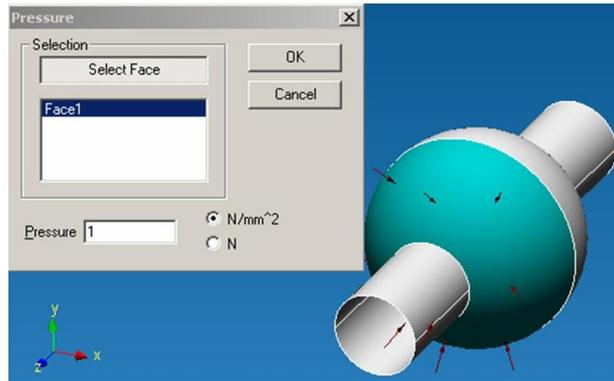
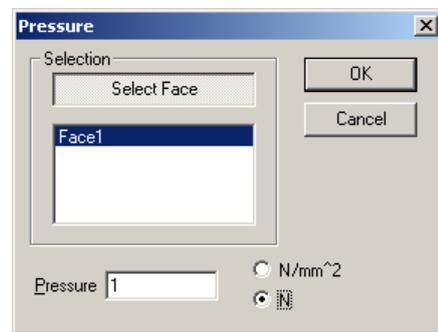

Fig. 2.9.4 Fix the highlighted surface, which will be under pressure
Fig. 2.9.5 Pressure value setting
To fix the highlighted surface you have to make a left-click. After that the selected surface will be put into the face list and red arrows will be drawn on it; they show the direction of pressure (Fig. 2.9.4).
The final stage is to specify the value of the surface pressure. For this purpose it is necessary to enter from the keyboard a numerical value into a field near the *Pressure* text box. This value can be both in  $\text{N}/\text{mm}^2$  (N) suggested in Fig. 2.9.4 and as a force acting on this face. For this purpose it is necessary to move the cursor to a corresponding text box ( $\text{N}/\text{mm}^2$  or N) and make a left-click (Fig. 2.9.5).